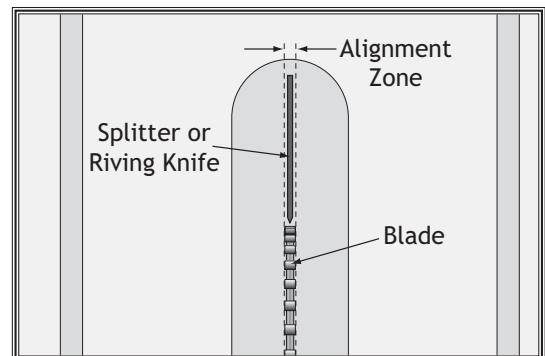

Figure 55. Riving knife alignment with blade.
9. Use a straightedge to check the riving knife alignment with the blade. The riving knife should be directly behind the blade in the "Alignment Zone" area shown in **Figure 55**.